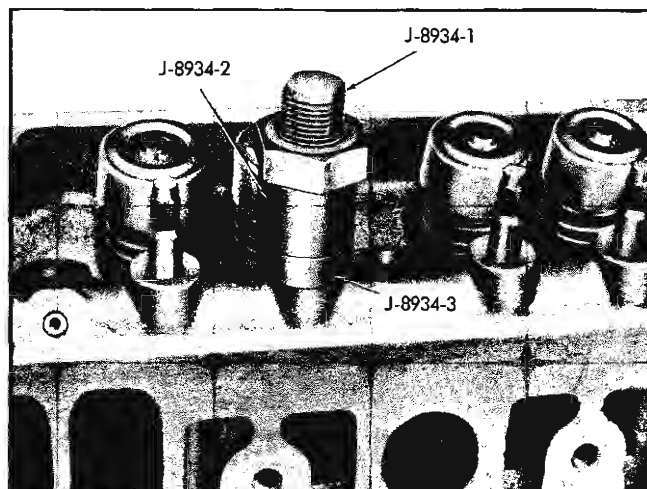

Fig. 6-33 Tool J-8934 Positioned to Remove Rocker Arm Stud
6. Thread  $\frac{7}{8}$ " standard nut on stud remover and turn nut until rocker arm stud is out of cylinder head (Fig. 6-33).
12. With valve seated, slowly press rocker arm stud into cylinder head (Fig. 6-33) until gauge pro-